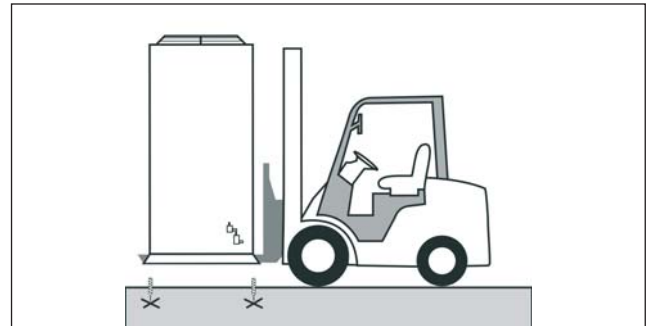

Fig. 9.9
3. Place the unit on the foundation (Fig. 9.9).